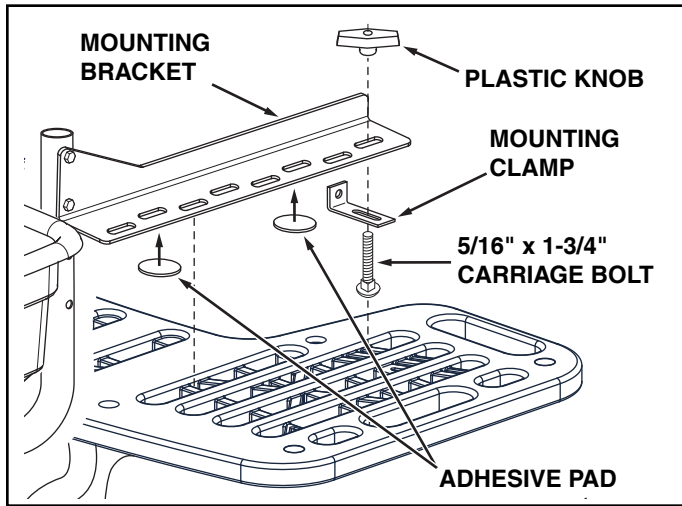

FIGURE 8
- Assemble the impeller coupler onto the motor shaft and secure it with the set screw against the flat side of the motor shaft. See figure 8.